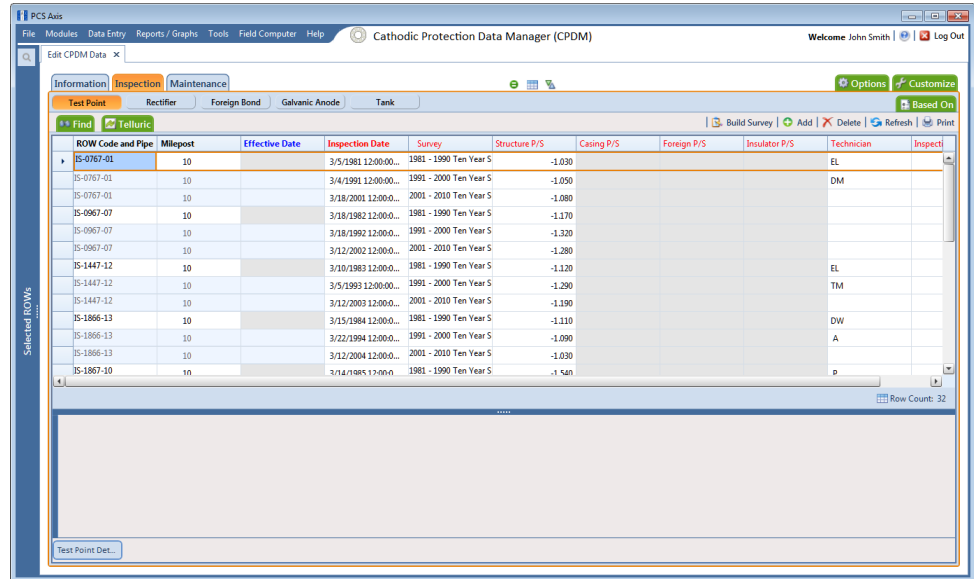

Figure 7-43. Test Point Inspection Grid
- 2 Open the *Edit <module> Data* window. For example, click **Data Entry > Edit CPDM Data** to open the *Edit CPDM Data* window (Figure 7-43).